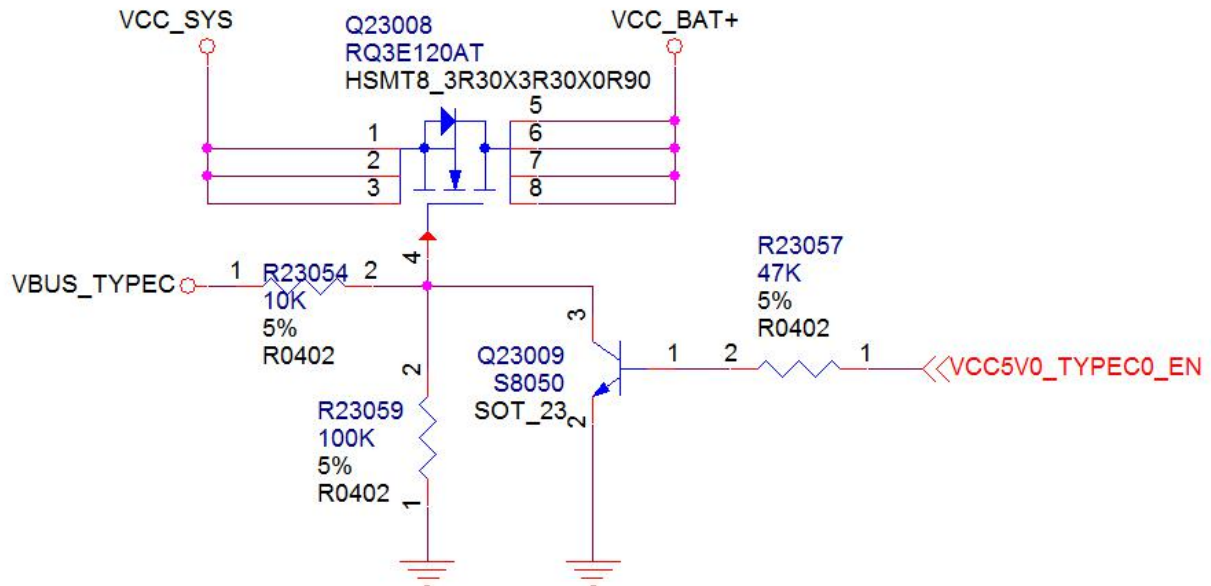

Figure 4-62 VBAT Power-path
- The traces of VBAT+ and VCC_SYS need to be considered 3-5 A load-current capability, could not have too much voltage drop, so the power vias need enough large aperture and enough more quantity. The Q23008 in Figure 4-62 is also used to reduce the internal power-path impedance of RK818-3, which can make the main power circuit impedance smaller, give full play to the battery performance.